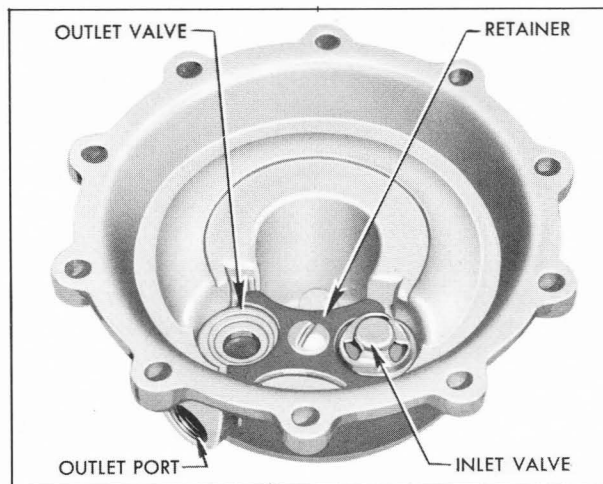

Figure 3-30—Valves and Retainer Installed in Vacuum Cover
2. Place one gasket in each valve seat in vacuum cover. Place one valve in seat adjacent to outlet port with the three legged spider down. Place another valve in other seat with spider facing up. Place retainer over valves with humped side up and install retainer screw. See figure 3-30.